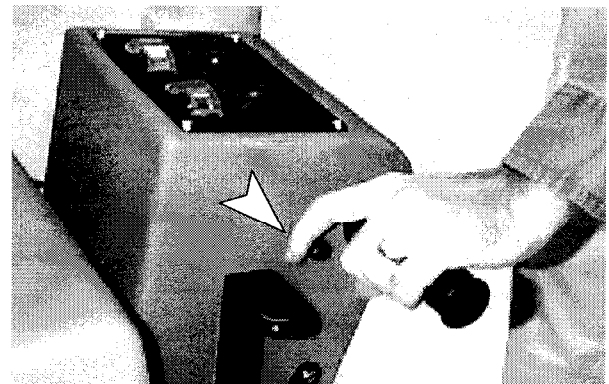

FIG. 17
- To operate machine in reverse, simply pull reverse switch backwards (one speed) (Figure 17).